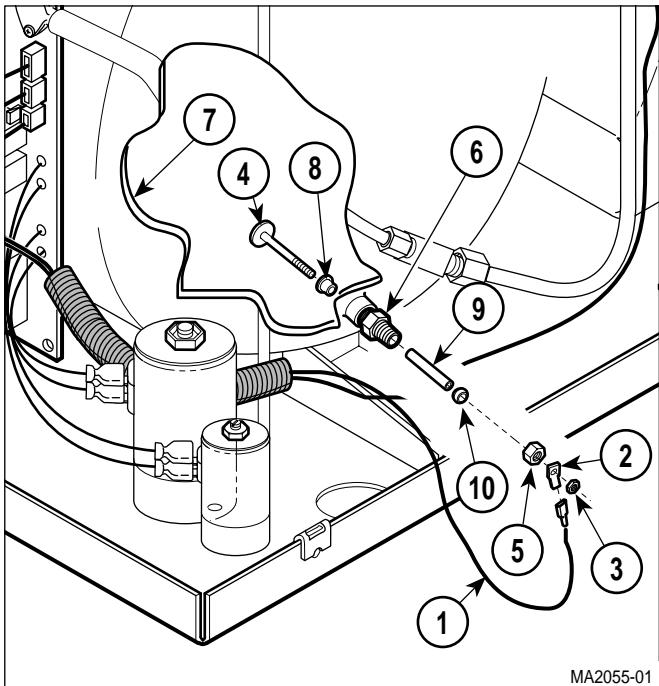

Figure 4-9. Pressure Vessel Water Level Sensor Removal / Installation
- (1) Remove back panel (Refer to para 4.5).
- (2) Remove wire tray rack and tray plate (Refer to para 4-17).
- (3) Disconnect wire (1, Figure 4-9) from terminal (2).
- (4) Remove nut (3) and terminal (2) from level sensor rod (4).
- (5) Remove nut (5).